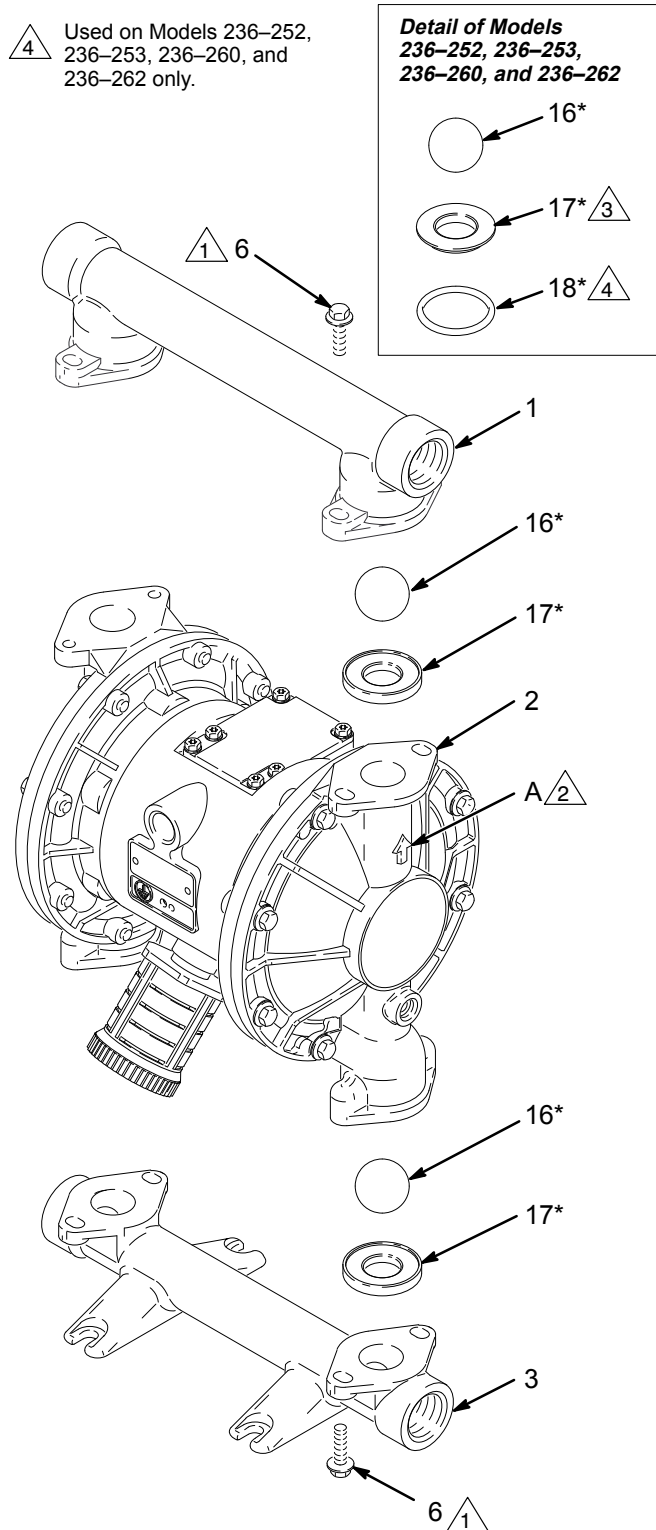

Fig. 12
**NOTE:** To ensure proper seating of the balls (16), always replace the seats (17) when replacing the balls. Also, on Models 236–252, 236–253, 236–260, and 236–262, replace the o-rings (18), and make sure the flat side of the seat (17) faces the ball (16).
3. Using a 10 mm socket wrench, remove the four bolts (6) and nuts (45, *used on Models 236–260, 236–261, and 236–262 only*) holding the outlet manifold (1) to the fluid covers (2). See Fig. 12.
4. Remove the o-rings (18, *used on Models 236–252, 236–253, 236–260, and 236–262 only*), seats (17), and balls (16) from the manifold.
5. Turn the pump over and remove the inlet manifold (3). Remove the o-rings (18, *used on Models 236–252, 236–253, 236–260, and 236–262 only*), seats (17), and balls (16) from the fluid covers (2).
2. Reassemble in the reverse order, following all notes in Fig. 12. Be sure the ball checks and manifolds are assembled **exactly** as shown. The arrows (A) on the fluid covers (2) **must** point toward the outlet manifold (1).